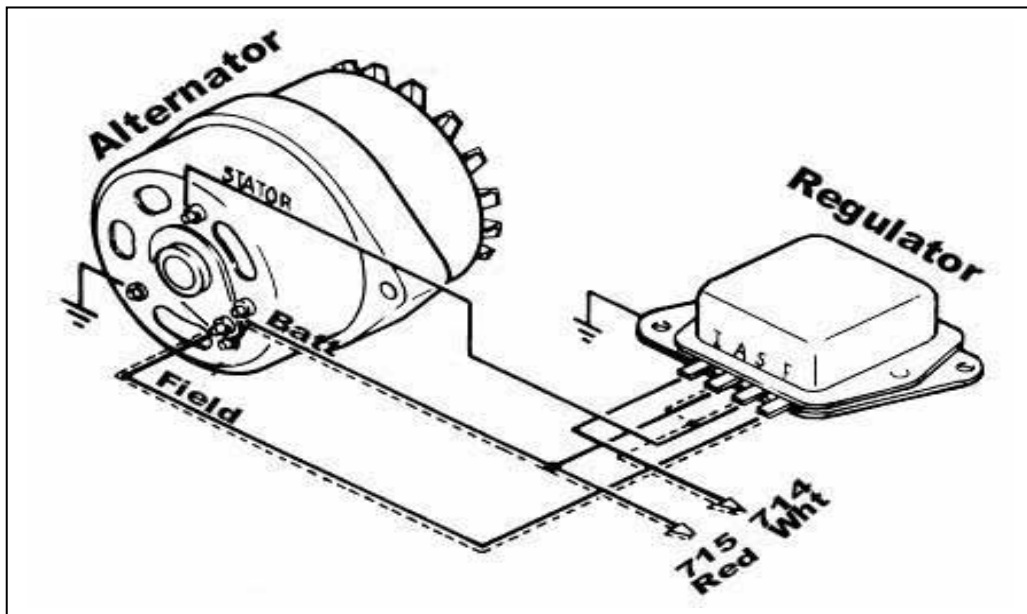

Figure 8.5 Motorcraft Alternator (2 configurations)
8.2.1 Motorcraft Alternator (2 configurations). See Figure 8.5.
Note: Your Alternator may not appear exactly as represented in Figure 8.5. The circuits are wired the same way, though.
- A. Connect ENGINE SECTION wire #715 (red) to the Alternator Output lug (Bat). Connect ENGINE SECTION wire #714 (wht) to the Voltage Regulator (I) terminal.
- C. Connect a 14-gauge wire from the Voltage Regulator S terminal to the S terminal of Alternator. Connect a 14-gauge wire from the Voltage Regulator F terminal to the Alternator Field (F) terminal.
- E. An alternate (and less-used) method is to omit the Alternator Stator (S) wire, install a 14-gauge jumper across Voltage Regulator terminals A and S, and connect wire #714 to either the A or S terminal on the Voltage Regulator. The FIELD wire and wire #715 are connected as above. Do **NOT** install a jumper as in **Section 8.2.1, Step B**. The Voltage Regulator Ignition (I) terminal is not connected. Install ground wires as in **Section 8.2.1, Step D**. This alternate configuration is illustrated in dashed lines in **Figure 8.5**.